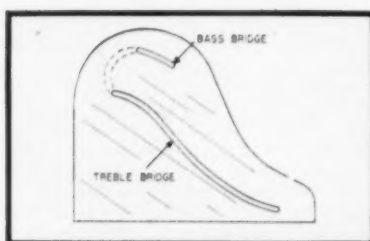

Fig. 6. Location of bridges on the sound-board.
The bridges are then capped or covered with a hard wood. Boxwood is used in the extreme treble end of the bridge, even though Baldwin points out that this wood is so expensive that it is sold by the pound rather than by the board foot. Caps on bass bridges are traditional practice; boxwood caps, especially when used on the treble bridge, represent an excellent practice. *Figure 6* shows the shape of the two bridges and their positions on the soundboard.
Performance curves for the system are shown in Fig. 6. Intermodulation distortion was measured with two frequencies—60 and 7000 cps with a level difference of 12 db—and it will be noted that it was necessary to double back with the curve. The relatively high power output is undoubtedly due largely to the high plate voltage (515) and the use of fixed bias on the output stage. Screens operate at 460 volts. Equalization is shown for the five crossover positions and for the five roll-off positions, in addition to the flat positions on both controls. Tone control range is also shown, and Table I gives the input voltages for
Fig. 4. Schematic of the Libretto remote control unit. Fig. 5 (inset). The complete Rauland 1826 system. Fig. 6 (below). Performance curves for the power amplifier with the control unit.